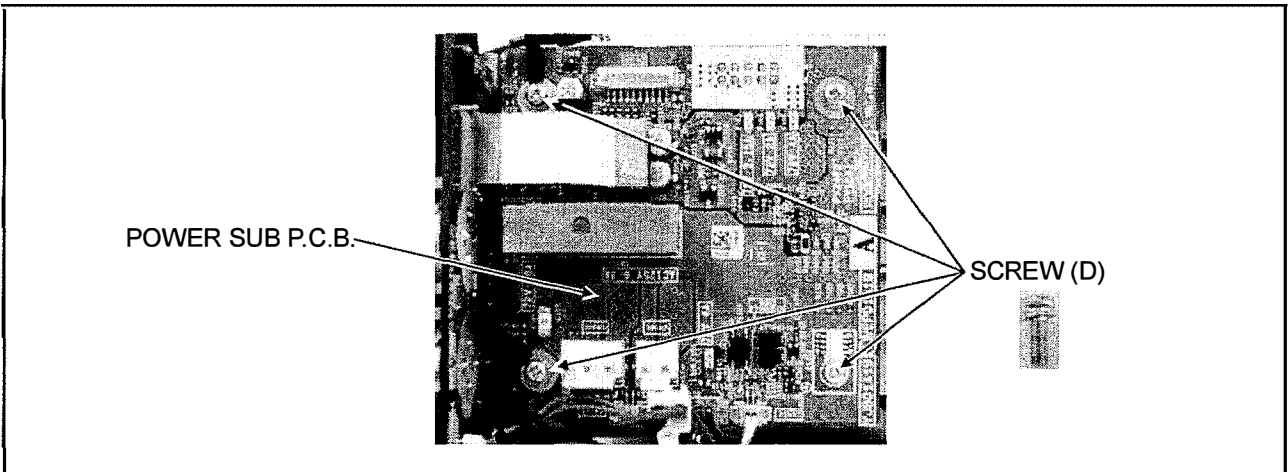

Figure 7-4
6. Unscrew the 4 screws (D) on the POWER SUB P.C.B. as shown in figure 7-4.